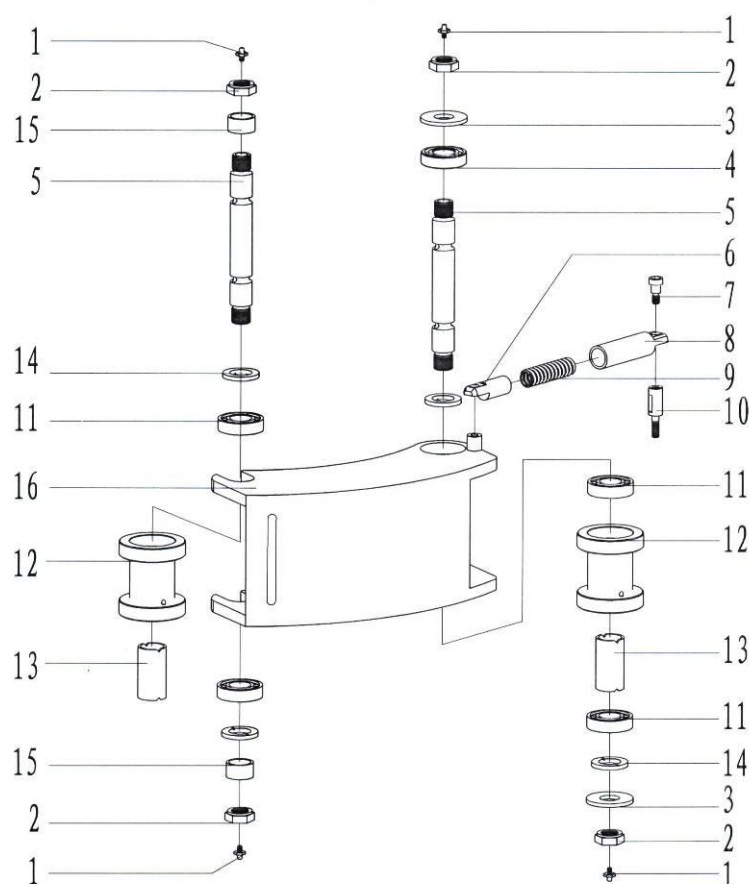

Fig. 16
7.1.9 Safety door assembly(Fig.16, Table.11)